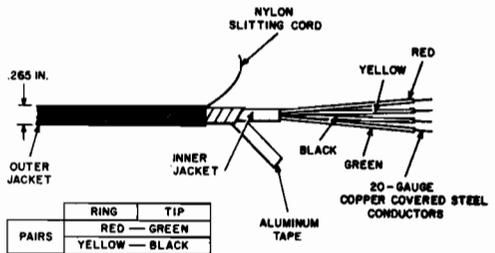

Fig. 2—F-59307 Filled Service Wire
**3.01** F-59307 filled service wire (Fig. 2) is the same as B service wire except: